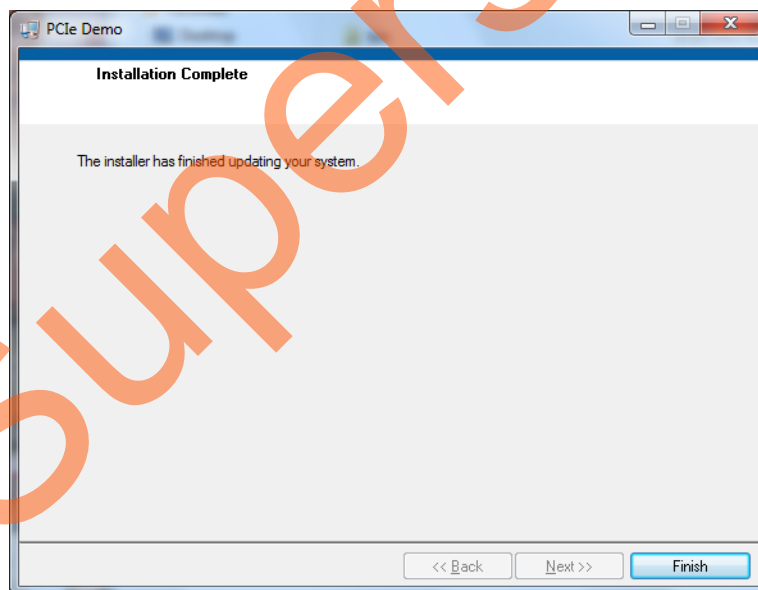

Figure 12 • Successful Installation of GUI
4. Click **Next** and **Finish** to complete the installation. Figure 12 shows the **Successful GUI Installation** window.